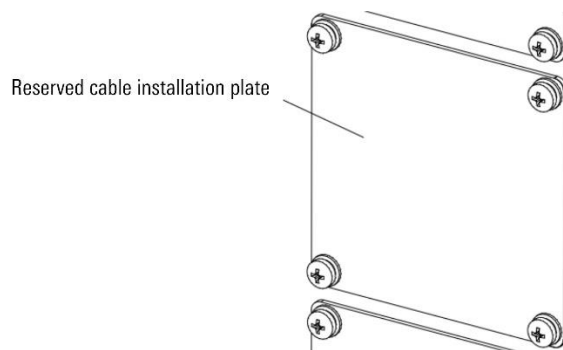
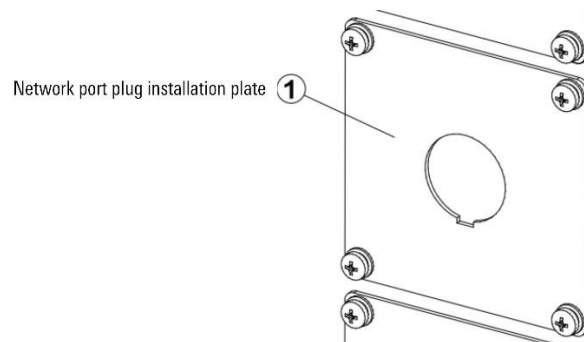

Figure 15-9 Reserved cable installation plate
Figure 15-10 Network port plug installation plate
Step1. Use a cross screwdriver to remove the original reserved cable installation plate (refer to Figure 15-9), and remove the network port plug installation plate (refer to Figure 15-10) installed on the cabinet.